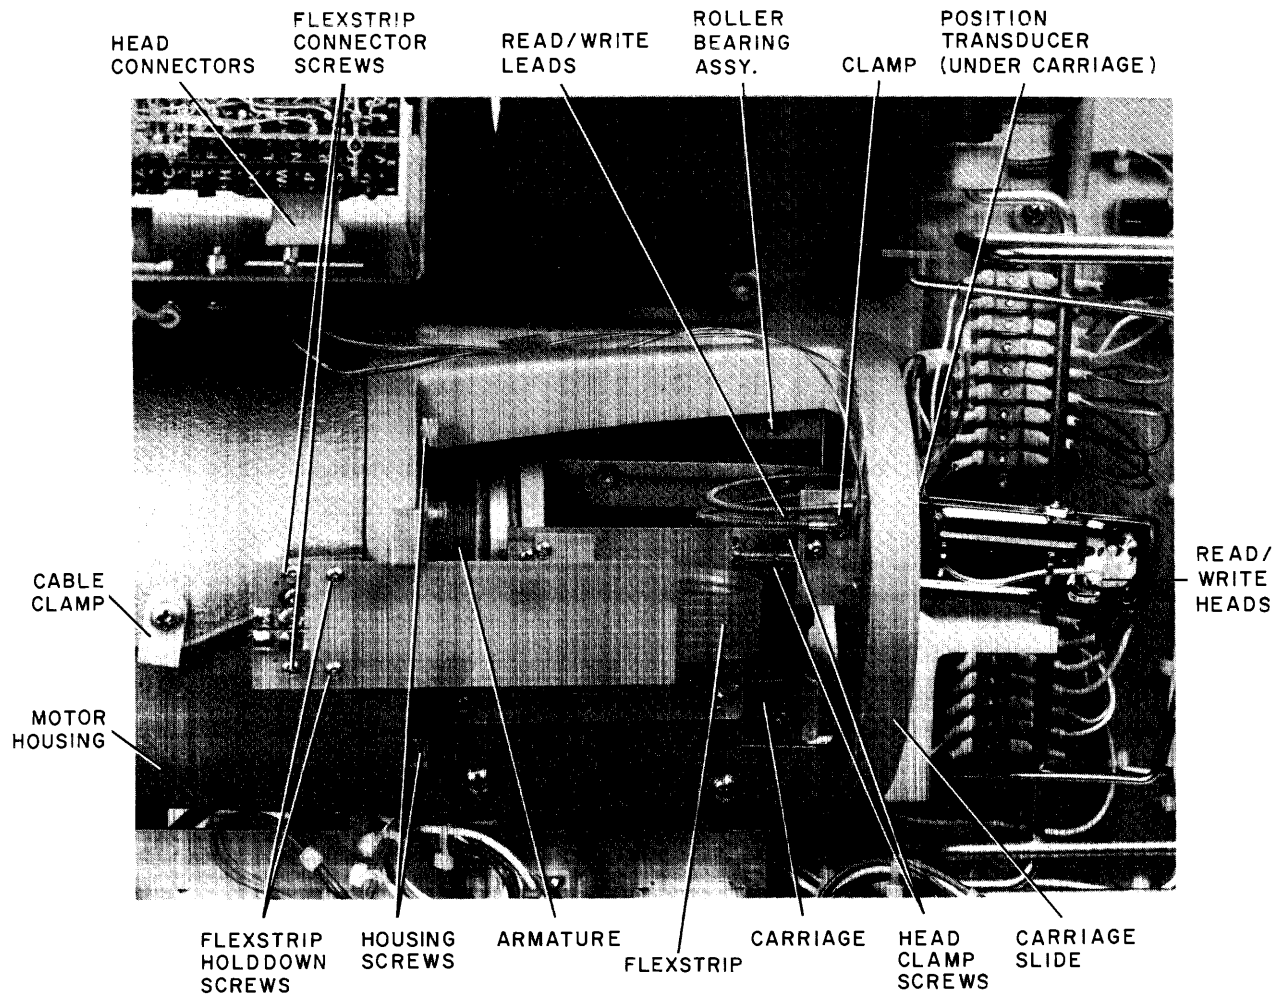

Figure 5-5 Carriage Removal
3. Remove the four flexstrip connector and flexstrip holddown screws (Figure 5-5). Do not disconnect the flexstrip coupling from the armature.
3. Replace the five screws that secure the carriage slide to the motor housing (Figure 5-5).